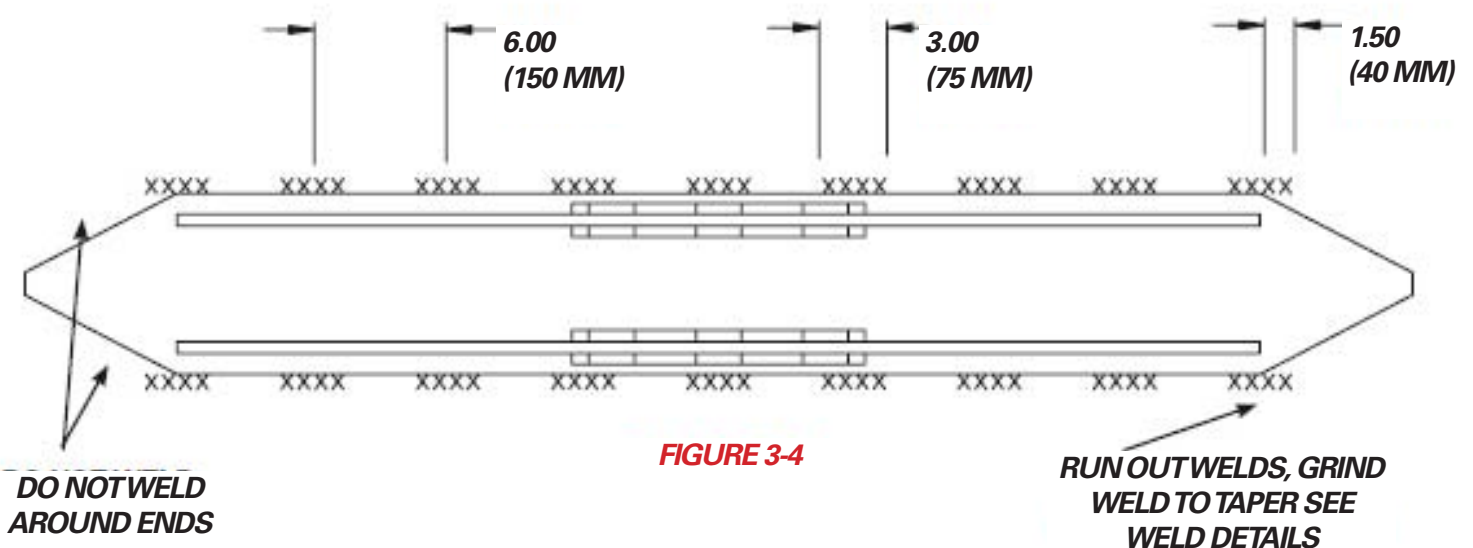

FIGURE 3-4
10. Weld the pad in position using E7018 low hydrogen welding rod. Make 1/2" (12.7 mm) fillet welds, 3" (78 mm) long, 6" (150 mm) on center (see figure 3-4). Run out welds 1-1/2" (40 mm) on ends and grind to taper in both the side view as shown in figure 3-5 and in the top view figure 306.
Under no circumstances should the mounting pad be welded around the ends (see figure 3-4).